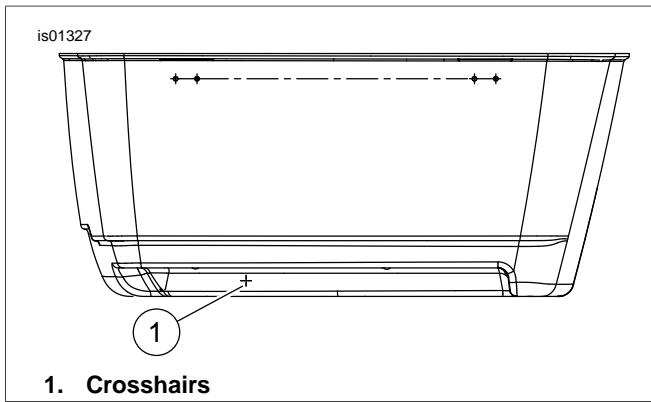

Figure 3. Tour-Pak Crosshairs Location
- See Figure 3. Locate crosshairs imprinted on side of Tour-Pak. Drill a 0.50 in. (12.7 mm) hole at crosshairs location. Repeat for opposite side.